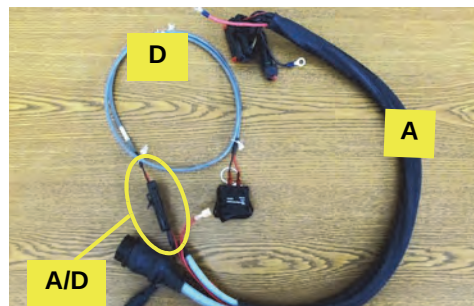

Figure 1d: Connecting the power switch cable
- Connect power switch cable **D** to the 4-pin connector on interface cable **A** (Figure 1d).